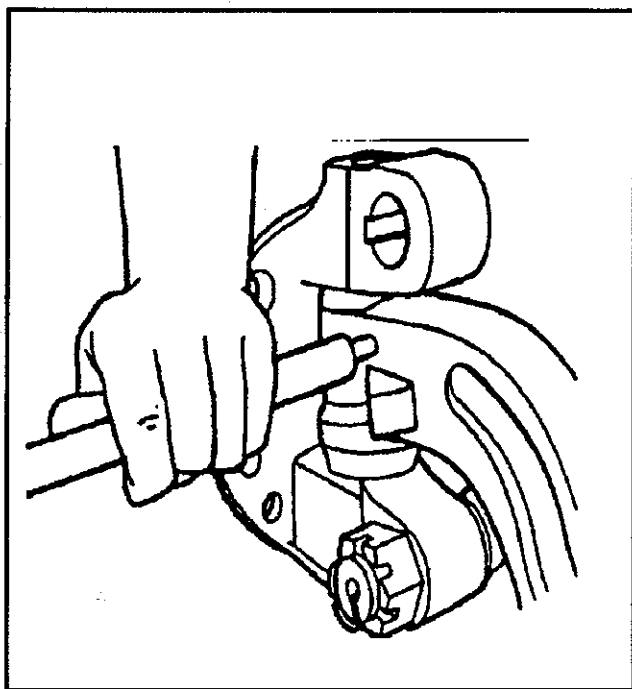

Figure 7—Removing Draw Key
9. Remove the draw key. (See Figure 7—Removing Draw Key.)